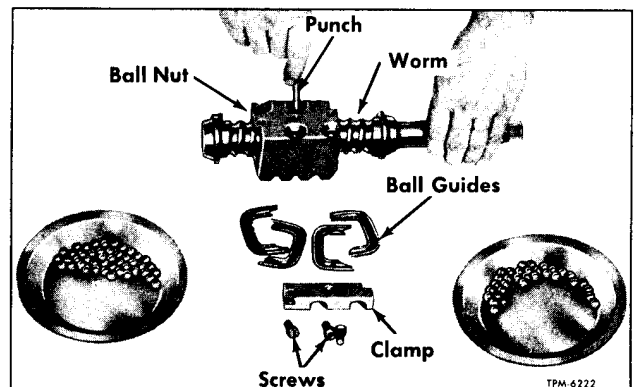

Figure 17—Filling Ball Circuits in Nut (Typical)
3. Drop balls into one of the return guide holes in upper circuit of nut. Gradually turn shaft away from that hole while inserting balls. Continue until the circuit is filled from bottom of one hole to bottom of the other, or until stopped by reaching end of the shaft worm (fig. 17).
4. In event balls are stopped by reaching end of shaft worm, hold down balls already installed with a rod or punch in return guide hole (fig. 17). Turn shaft in the reverse direction a few turns. Filling of the circuit can then be continued. It may be necessary to work shaft back and forth, holding balls down, first in one hole and then in the other. This will close up spaces between balls, filling the circuit completely and solidly.